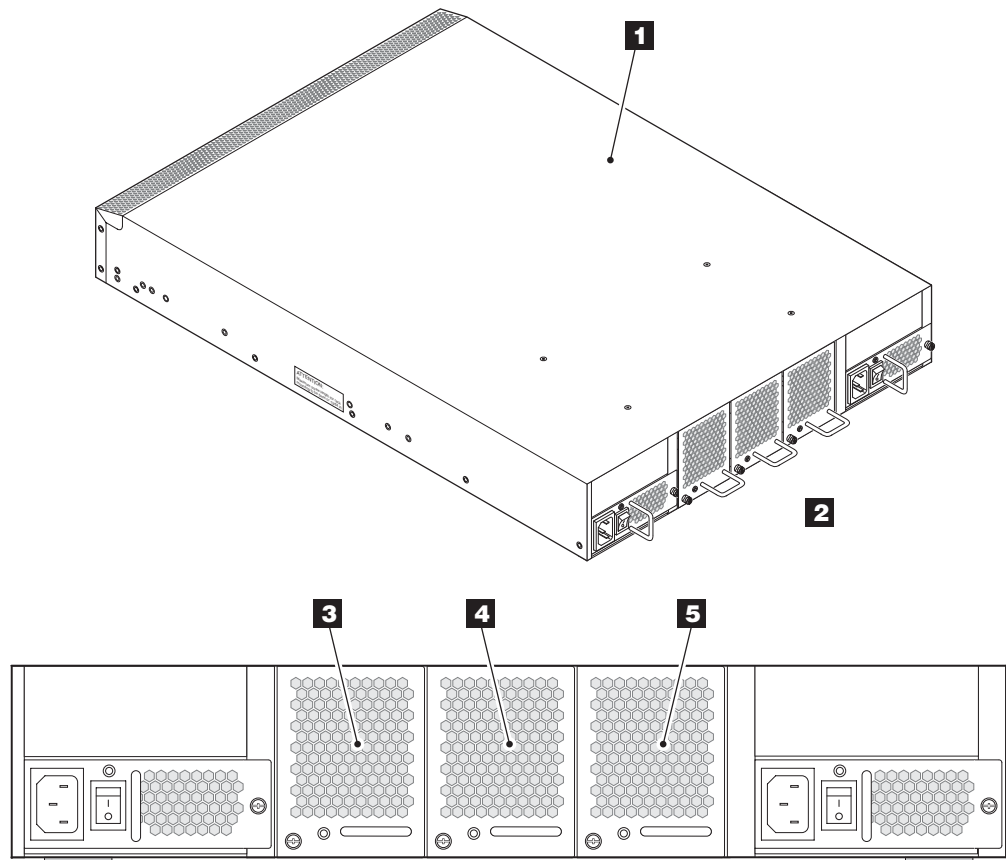

Figure 26. Three fan assemblies, located on the nonport side of the switch
The switch has three fan assemblies, as shown in Figure 26 on page 49. The three fan assemblies are hot-swappable if replaced one at a time. They are identical and fit into any fan assembly slot. The Fabric OS identifies the fan assemblies from left to right as Fan 3, Fan 2, and Fan 1.
- Check the fan status LED on the face of the fan assembly (see Figure 26).